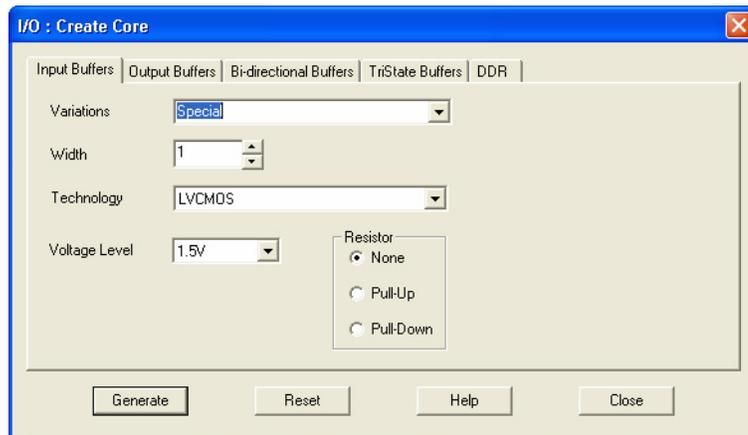

Figure 13-3 • I/O Create Core Window
3. Double-click I/O to open the Create Core window, which is shown in Figure 13-3).
As seen in Figure 13-3, there are five tabs to configure the I/O macro: Input Buffers, Output Buffers, Bidirectional Buffers, Tristate Buffers, and DDR.
The **Special** variation has Width, Technology, Voltage Level, and Resistor Pull-Up/-Down options (see Figure 13-3). All the I/O standards and supply voltages (V_{CCI}) supported for the device family are available for selection.